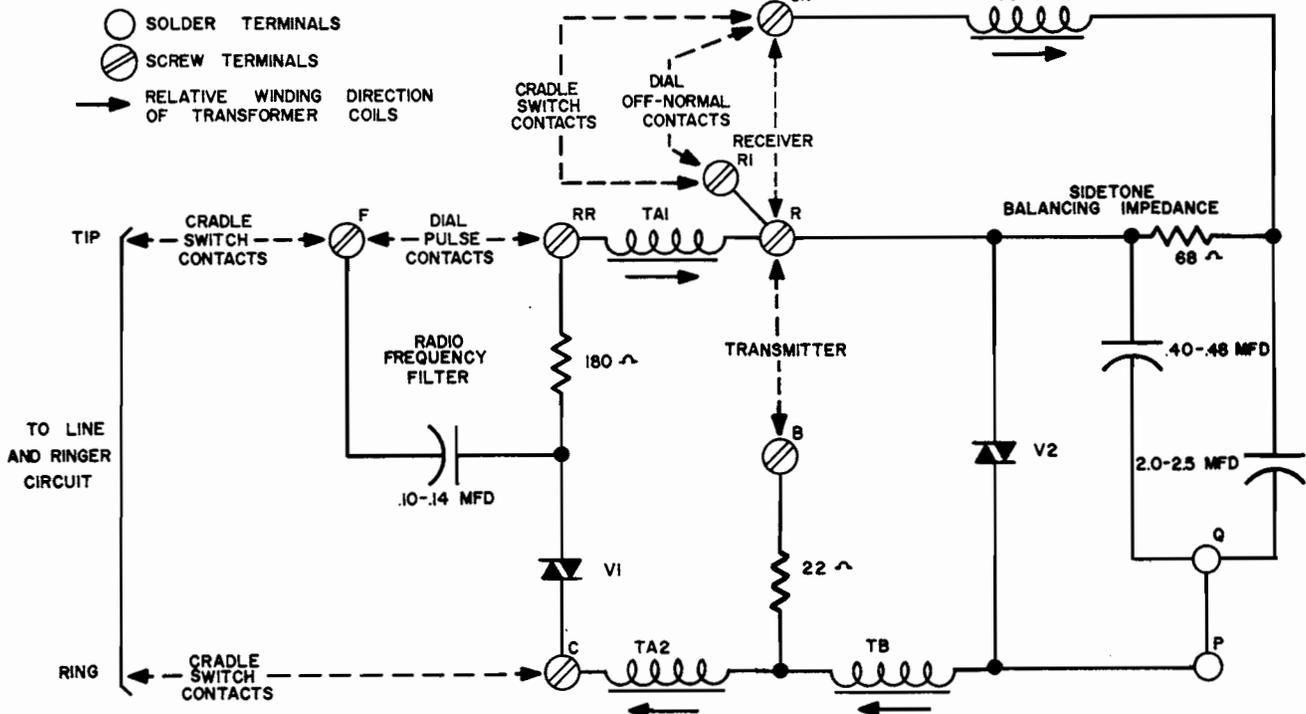
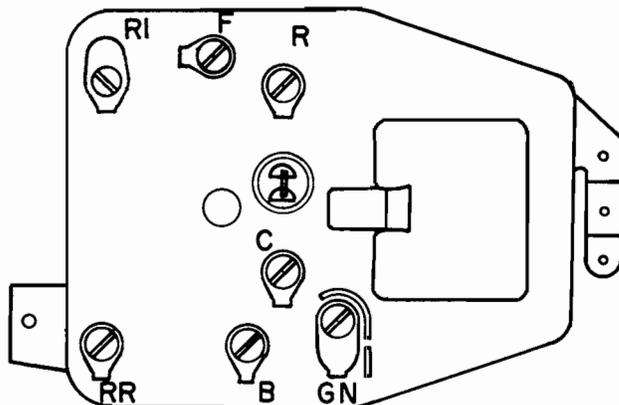

Fig. 2-1 CIRCUIT DIAGRAM
Fig. 3-1 TERMINAL BOARD LAYOUT
2.1 The circuit is shown in Fig. 2-1; the dashed lines show typical connections to other components of a complete telephone instrument. The features of the circuit are briefly discussed in the following paragraphs.
The direction of winding of the four coils of the transformer is indicated by arrows in Fig. 2-1. Received speech currents pass via windings TA₁, TB and TA₂, each of which produces an additive voltage in winding TC. The received currents also produce a voltage across the 68 ohms resistor that opposes and is almost equal to that produced by the induced voltages in winding TC. There is, therefore, very little power loss in the resistor and varistor and maximum power in the receiver. The low impedance of the transmitter is matched to the loop by the turns ratio of winding TB to windings TA₁ and TA₂.
3.1 Thorough testing of the network assembly can only be performed with elaborate test equipment. An adequate check on performance, for maintenance purposes, is to compare a suspected unit with a known good unit by substitution. Resistance and capacitance checks can be carried out between many of the terminals, as can be seen from Fig. 2-1. Note that the soldered connection between terminals P and Q can be opened to permit testing of the two network capacitors. Fig. 3-1 shows the layout of the terminal board of the assembly.